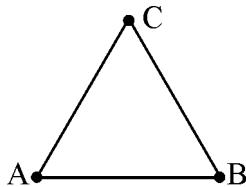

Fig. 1
- (g) State whether links arrangement shown in Fig. 1 is kinematic chain.